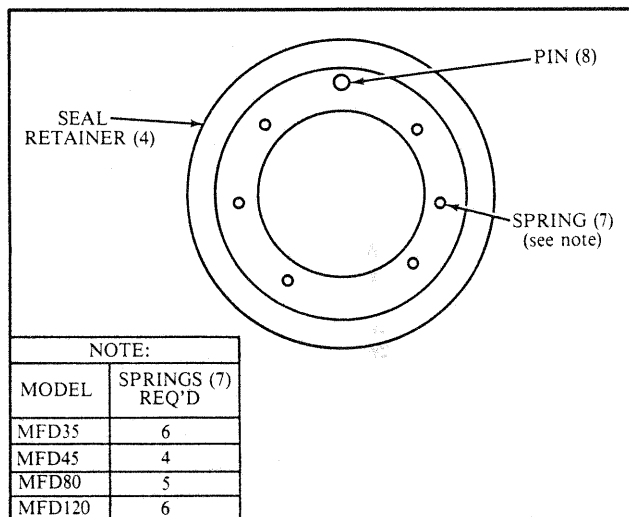

Figure 17. Pin (8) and Spring (7) Location
g. Perform this step (f) and the following (g) only if stationary seal (5) was disassembled from seal retainer (4). If pin (8) was removed, tap it into designated hole of seal retainer (4). Install springs (7) into remaining holes of seal retainer. Refer to Figure 17 for pin and spring locations.